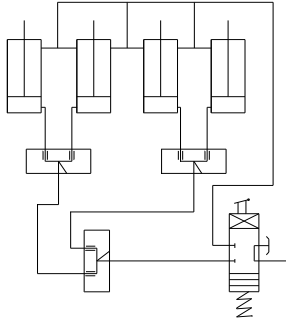

Figure 1, Four cylinder synchronous sample
2. When multiple cylinders are required to be synchronized, use a multi-stage serial, such as one is divided into two, then two is divided into four and so on (see figure 1) but should pay attention to error accumulation (see the application examples in the “technical note” ).